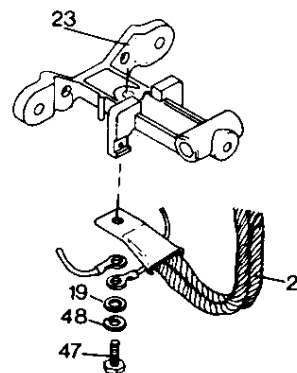

Figure 6
2. Disconnect the arc chute wires by removing the hex head cap screw (47), washer (19), lockwasher (48), arc chute wires and shunt (21).
4. Remove the arc chute by removing hex head nut (17), lockwasher (8), hex head cap screw (45) and the arc chute.
7. Reconnect arc chute wires (Fig. 6) and shunt, using the washer, lockwasher and hex head cap screw.
1. With all power removed, disconnect the bottom end of the shunt (21) by removing hex head cap screw, lockwasher, washer, arc chute wires and shunt.
2. Disconnect the top end of the shunt (21) by removing hex head nut, lockwasher, washer and the shunt.
3. Check that auxiliary arm pin (27) is centered and set screw (18) is tight.
5. Connect the bottom end of the shunt by replacing the shunt, arc chute wires, washer, lockwasher and hex head cap screw (Fig. 6).